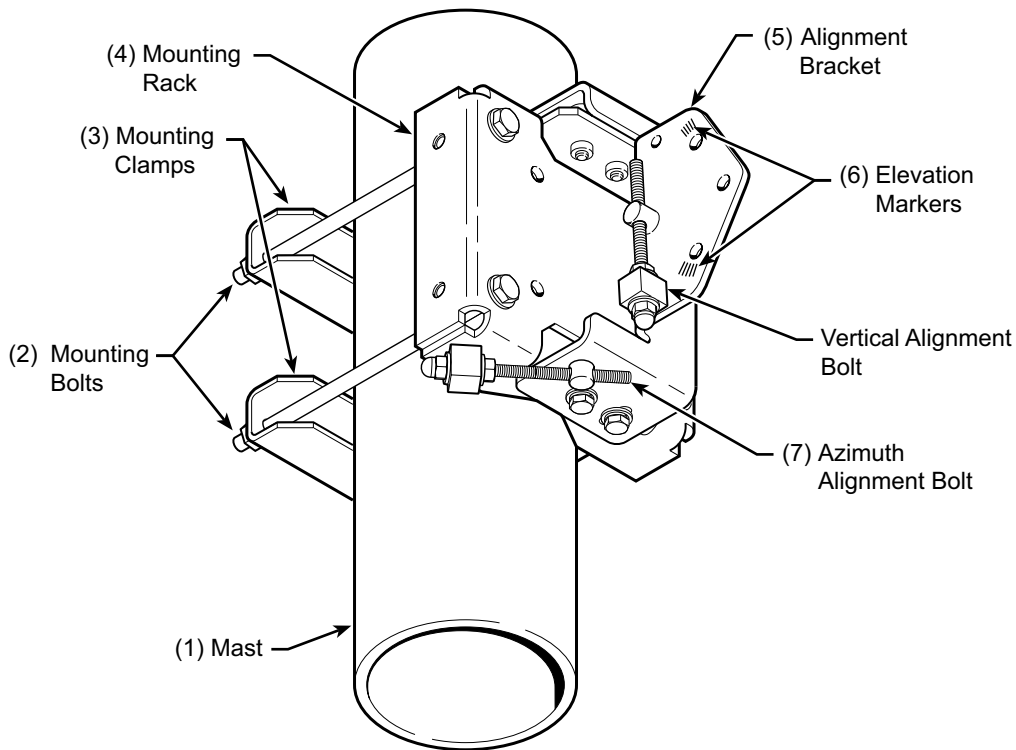

Figure 4-1. Pole Mount Assembly
1. Attach the ODU mounting bracket to a mast between 2- and 4-inches in diameter (1 in Figure 4-1).
2. Remove the nuts and washers (2 in Figure 4-1) from one side of each of the two mounting clamps (3 in Figure 4-1) and slide the mounting clamps off the bolts. Set them aside in a safe place.
3. Slip the mounting bracket (4 in Figure 4-1) around the mast.
2. First installer: Lift the antenna onto the alignment bracket, aligning the arrows on the ODU over the elevation markers (6 in Figure 4-1).
1. As needed, use a ratchet wrench and a 7/16-inch socket to loosen the azimuth alignment bolt (7 in Figure 4-1).